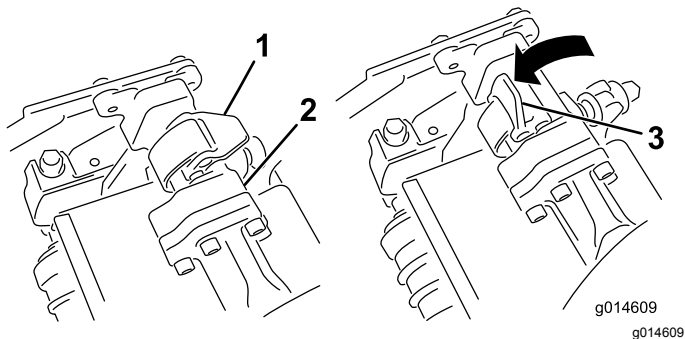
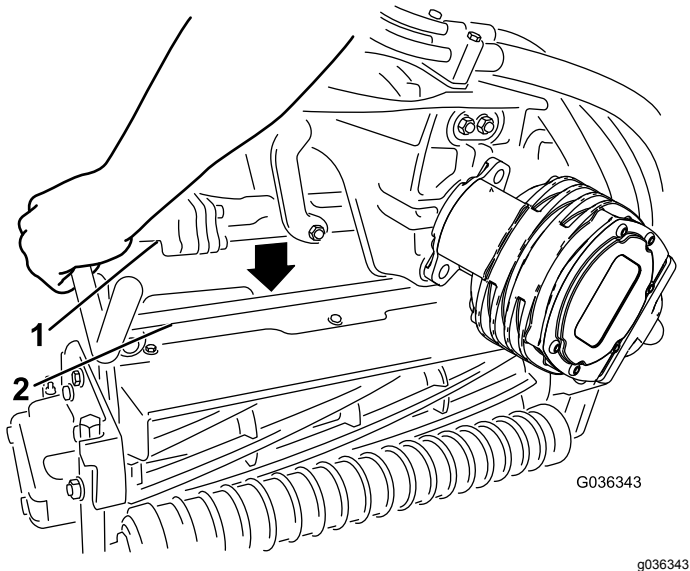

Figure 45
Figure 46
4. With the latches on the suspension-arm bar pointing up (i.e., open) (Figure 45), push the suspension arm down so that the bar fits over the bar across the top of the cutting unit (Figure 46).
5. Close the latches down and around the cutting-unit bar and lock them in place (Figure 45).
5. Open the latches on the suspension-arm bar of the cutting unit you are removing (Figure 45).